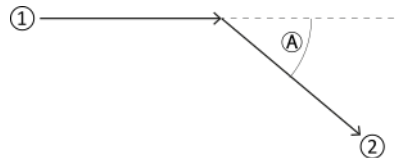

Figure 11.2: Angle in change of direction
Legend of figure 11.2 on page 196 : (1) Pre-joint line, (2) Post-joint line, (A) Angle